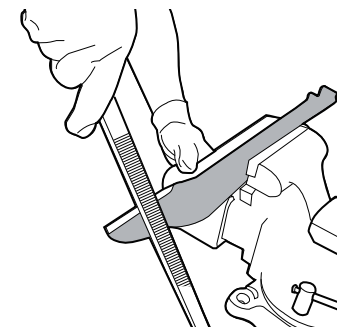

Fig. 23
- To check the blade balance: clamp a nail or a screw driver with a round shank in the horizontal position. Position the blade so that the nail or round shank of the screwdriver supports the blade through its center hole. Balance the blade horizontally. If either end of the blade rotates downward, remove some metal from the heavy or lower end until the blade is balanced. It is balanced when neither end drops. See figure 23.